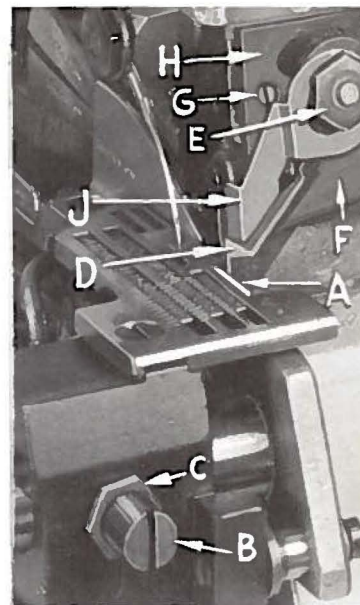

Fig. 13
Replace lower knife holder assembly. Lower knife (A, Fig. 13) should be set with cutting edge flush with throat plate surface. Adjustments are made with hexagonal head screw which holds lower knife. Lower knife is spring pressed against upper knife, so no lateral adjustment is necessary when width of trim is changed.
Replace upper knife assembly. Clamp upper knife (D, Fig. 13) in position, setting nut (E) to hold clamp (F) in its most clockwise position against upper knife. At bottom of its stroke, front cutting edge of upper knife should extend not less than  $\frac{1}{64}$  inch below cutting edge of lower knife. The chain guard (J) should be set down against the upper knife and slightly back from the cutting edge.